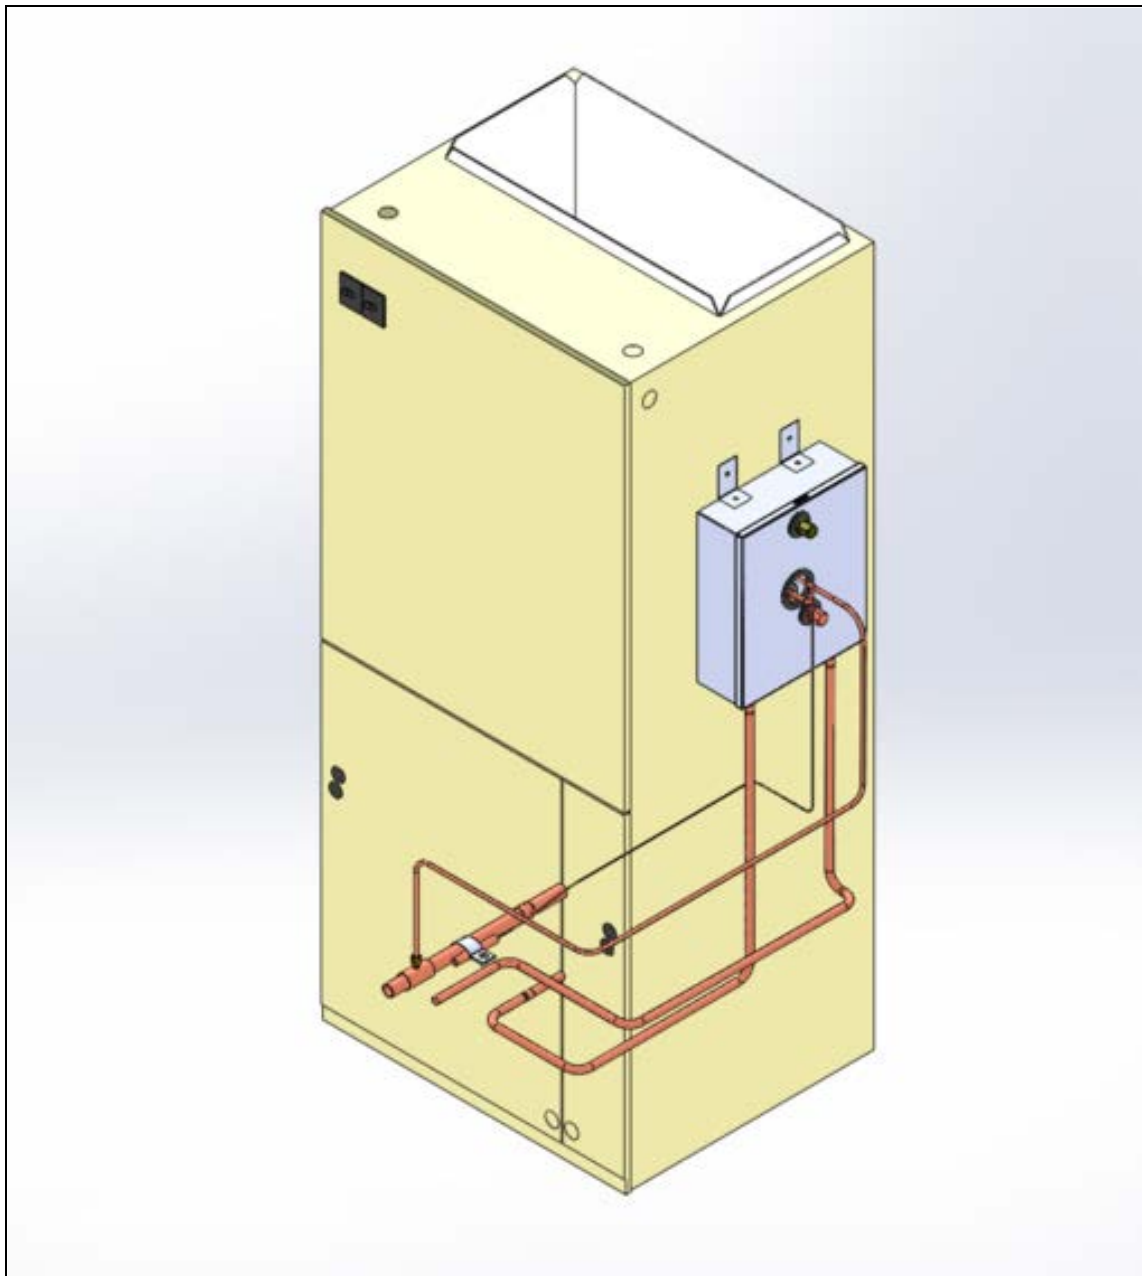
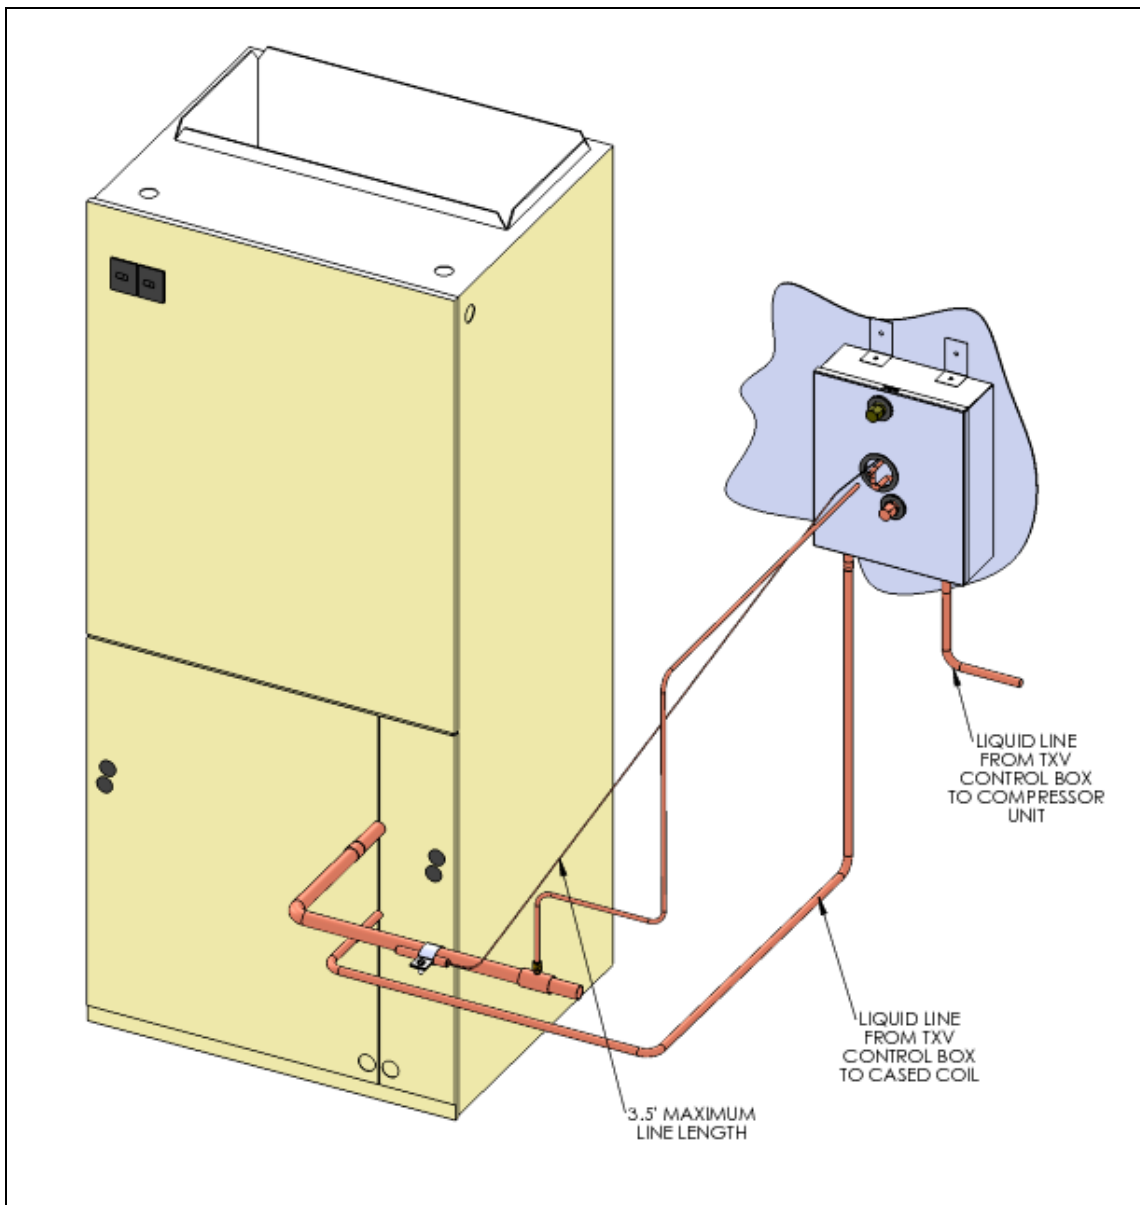

Figure 4a. TXV Control Installed on Vertical (upflow/downflow) Air Handler
Figure 4b. TXV Control installed next to Vertical (upflow/downflow) Air Handler
The TXV control box is field positioned external to the vertical (upflow or downflow) air handler and fastened to (1) the air handler as shown in Figure 4a, or (2) on a solid mounting surface immediately adjacent to the air handler as shown in Figure 4b. Locate the TXV control box to allow a service access of at least 12 inches in front of the box to adjust the TXV control.